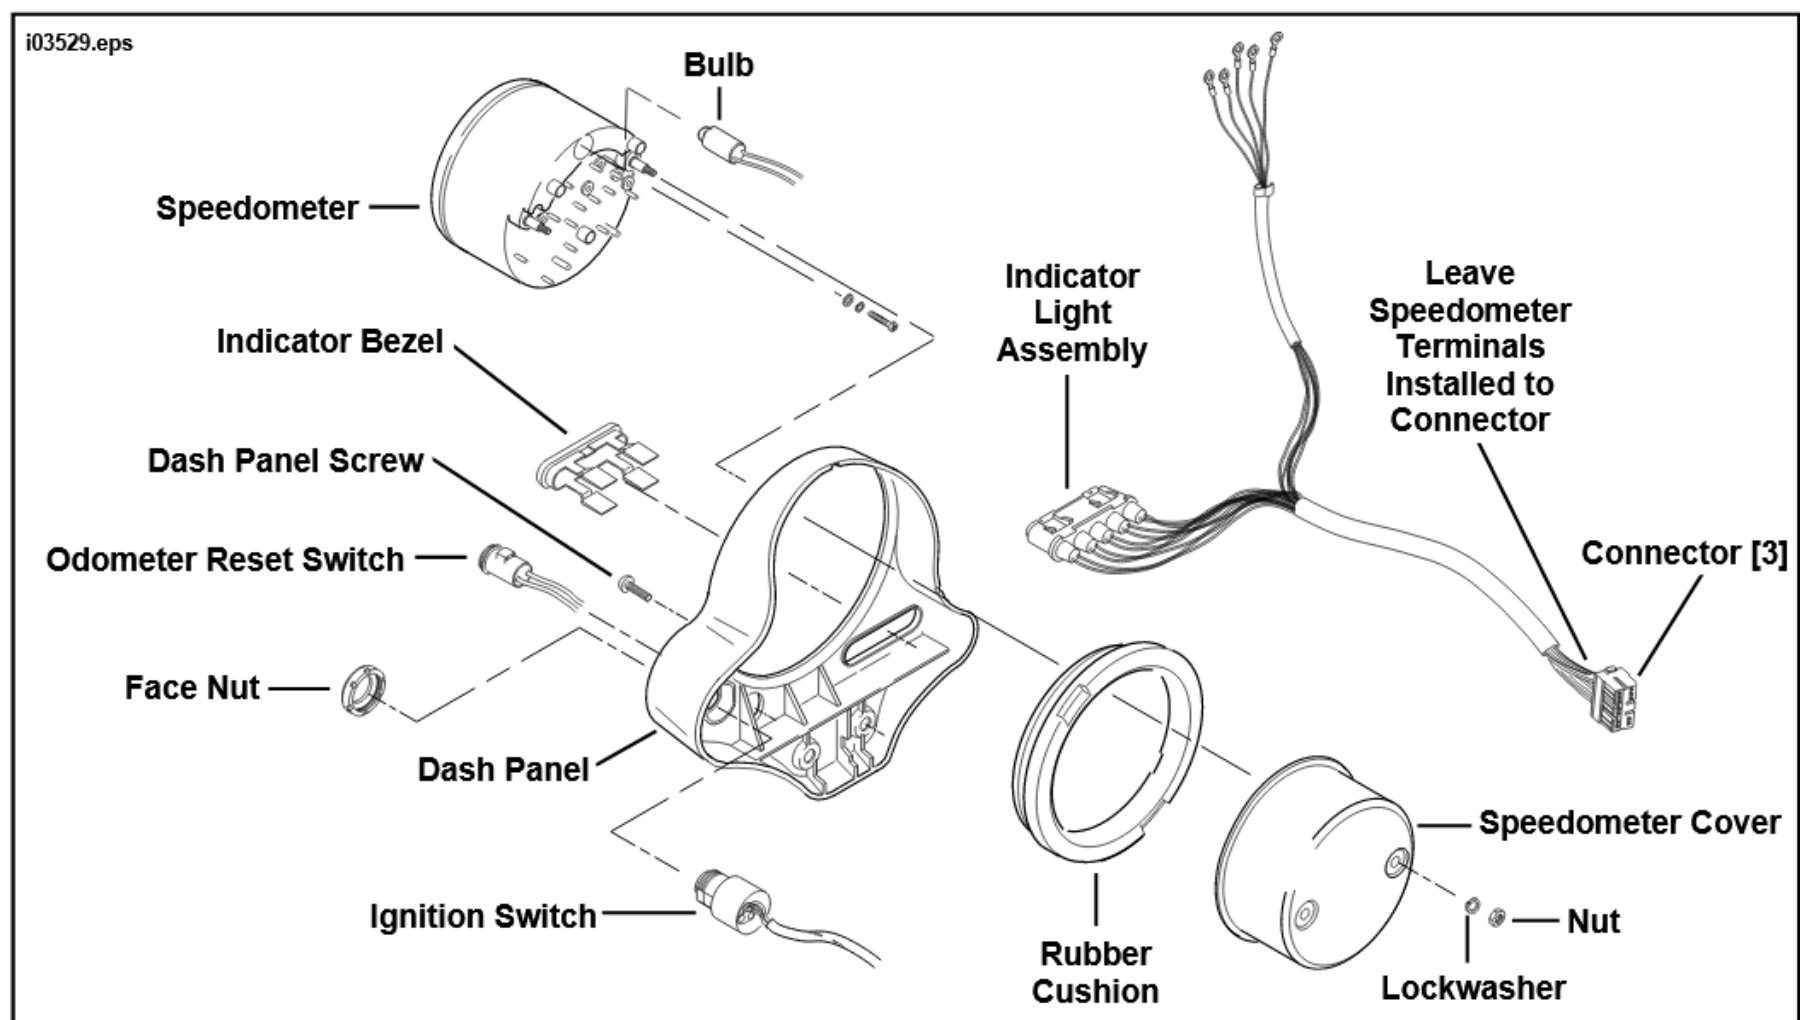

Figure 5. Stock Speedometer Assembly
- See Figure 5. Release the four tabs on the indicator light bezel holding indicator light assembly in place.
- See Figure 5. Trace speedometer wires back to the speedometer connector and disconnect connector halves. Note location of cable ties and cut to allow removal of wires.